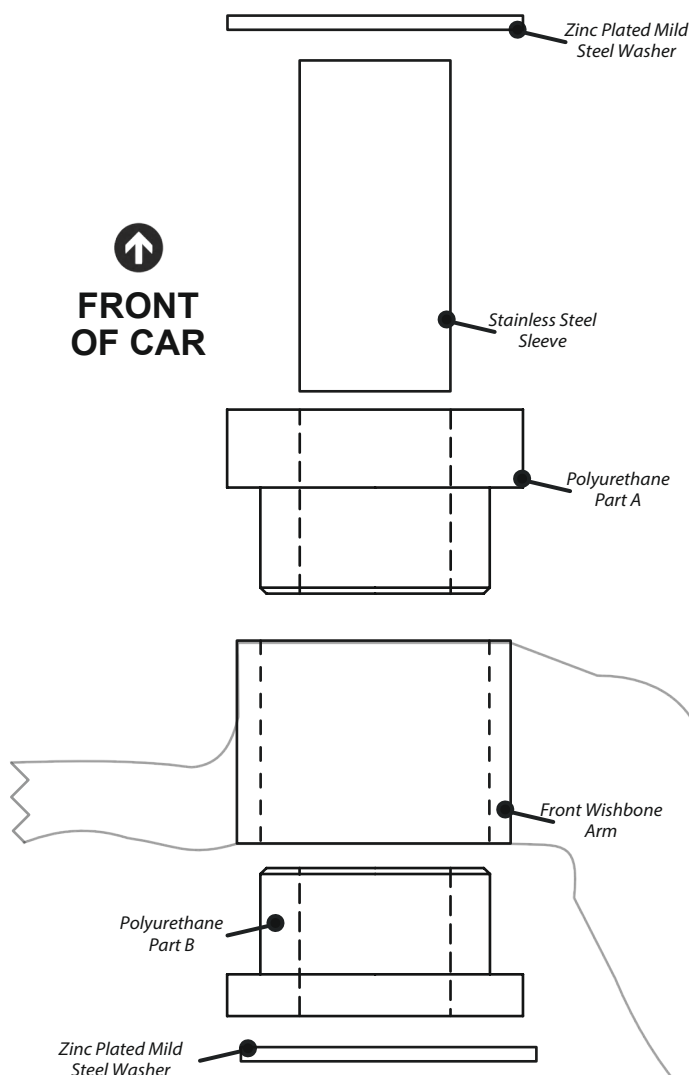

Figure 1
3. Push polyurethane part A into the bore of the arm so that it is facing towards the front of the car. Push polyurethane part B so that it is facing towards the back of the car, as shown in Figure 1.
5. Place two zinc plated mild steel washers on either end of the polyurethane bush, as shown in Figure 1, and refit the arm back to the vehicle and tension all hardware to manufacturers recommended torque settings.